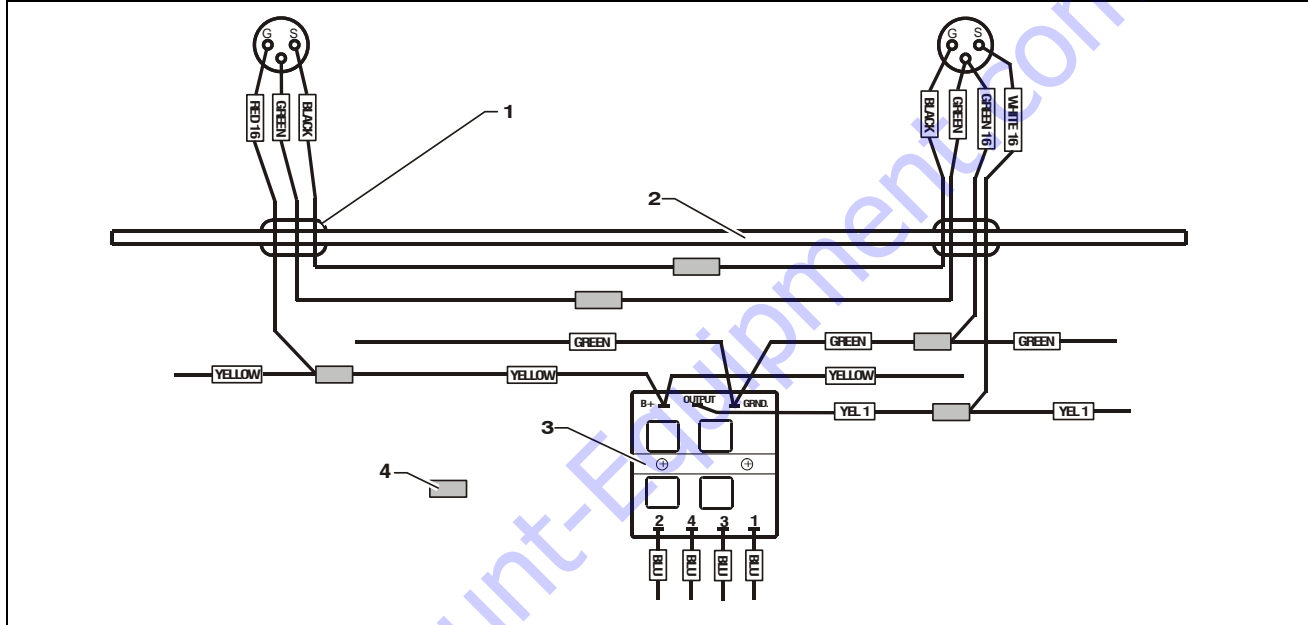

Figure 5-3. Straddle Adapter Wiring Harness to AM Wiring Connections.
5. Install the spring clips to the base frame at location of drilled holes, using two (2) #10-24 x .625 bolts and two (2) nuts and two (2) lock washers per spring clip.
8. Wire the adapter wiring harness ends together and to the interlock relay wires **as shown in Figure 5-3.**
9. Press the two (2) - three (3) prong connector ends into the spring clips mounted on the base frame.